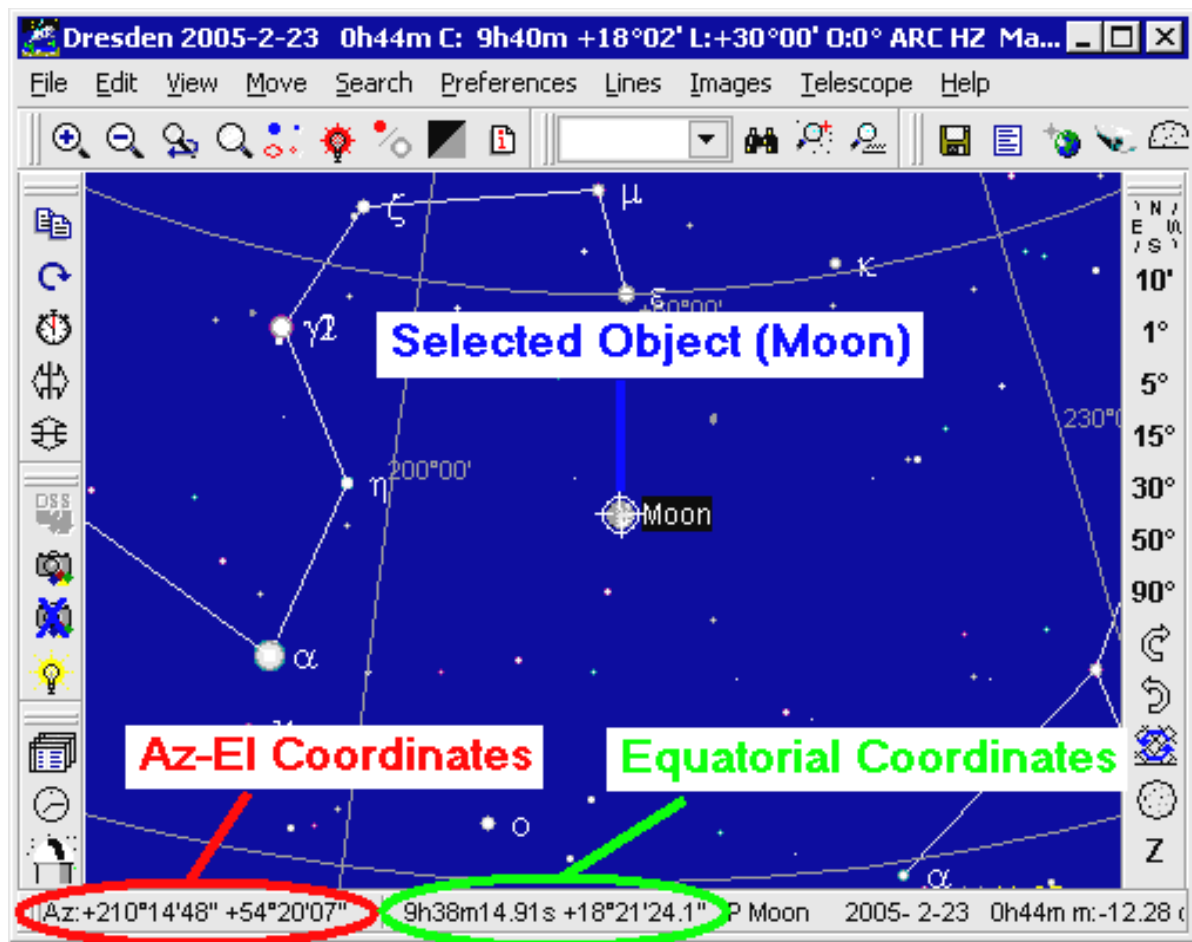

Figure 16 Reading out AZ/EL coordinates
5. Point on your desired astronomical object (the Moon in this example) and note the Az-El coordinates in the status bar. Click on the object to determine the equatorial coordinates (Figure 16).